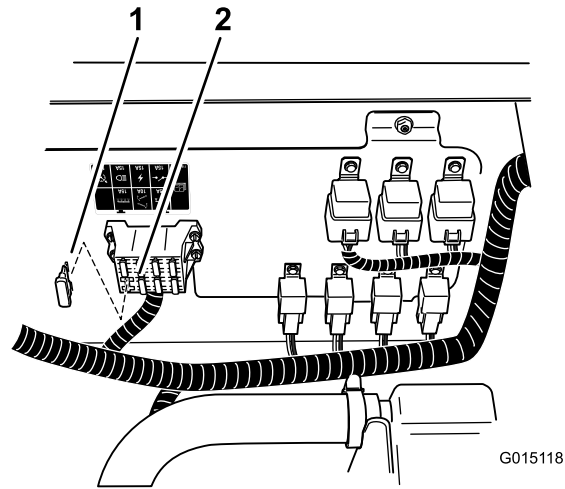

Figure 30
6. Install a 10 Amp fuse into the fuse block (Figure 30).